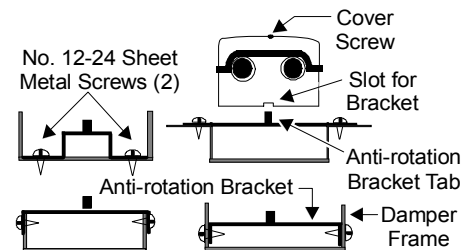

Figure 2: Anti-rotation Bracket Positions
2. Bend or cut the anti-rotation bracket to fit the damper frame or duct as shown in Figure 2.
4. Insert the anti-rotation bracket tab into the slot at the bottom of the actuator (shown in Figure 2), and slide the actuator onto the shaft.